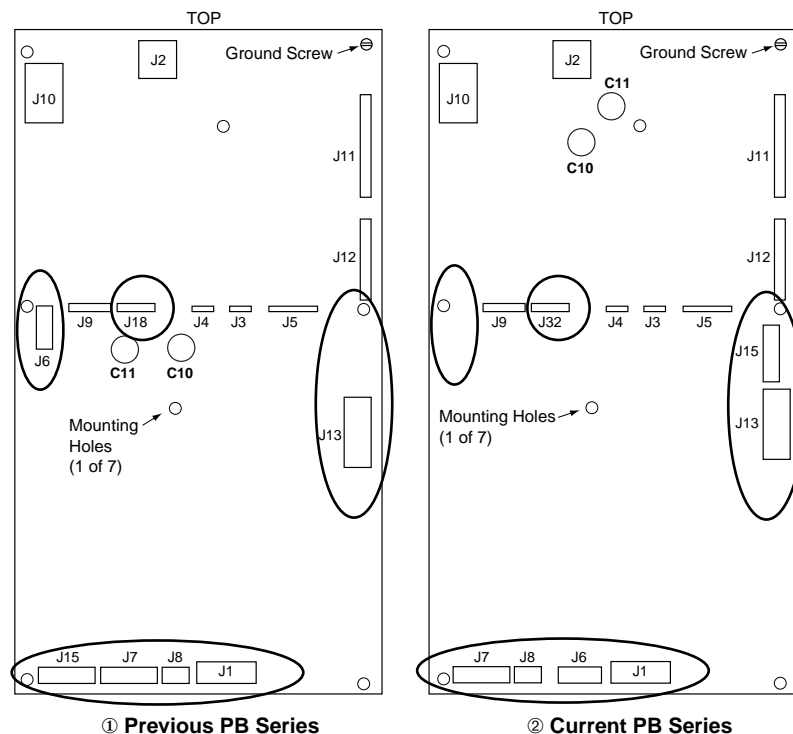
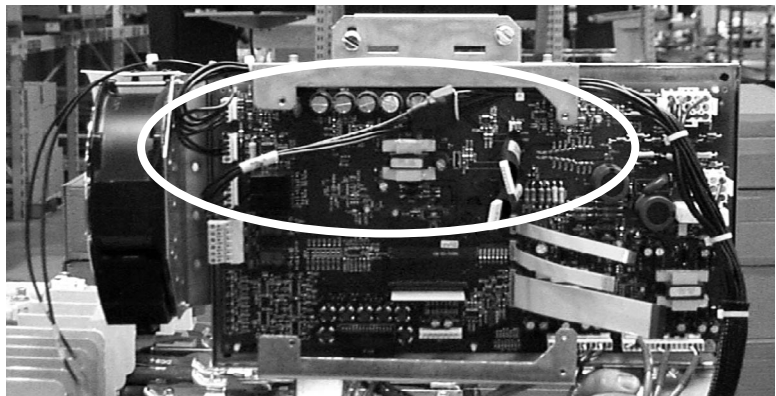

Figure 4.1.10: Previous and Current Power Board Series
Figure 4.1.11: Installation of 52021-179-50 Adapter Cable
4. Carefully disconnect the cables attached at connector jacks J1, J2, J6, J7, J8, J10, J11, J12, J13, and J15 on the power board. See Figure 4.1.10 on page 4.1.17 for connector jack locations.
NOTE: For Figure 4.1.10:
3. Install connector jacks J9 and J32 on the new power board. Refer to ② in Figure 4.1.10 for connector jack locations.
4. Install connector jacks J1, J2, J7, J8, J10, J11, J12, and J13 on the power board. Refer to ② in Figure 4.1.10 for connector jack locations. *When installing the connection at J11, align the connector sockets with the pins on the power board.*
5. Install the connection to the J15 connector jack on the right side of the board. Refer to ② in Figure 4.1.10. If the board being replaced was of the **previous** series (① in Figure 4.1.10), wire-tie cable P15 to the control basket mounting frame.
6. Install the connection to the J6 connector jack on the bottom edge of the power board. If the board being replaced was of the **previous** series (① in Figure 4.1.10), mate the enclosed adapter cable 52021-179-50 to the existing P6 cable, ensuring a good connection (see Figure 4.1.11). Using needle nose pliers, install the other end of the adapter cable into the J6 connector jack at the bottom edge of the power board (see ② in Figure 4.1.10). Wire-tie the adapter cable to the existing cable harnesses terminated at connector jacks J7 and J8.